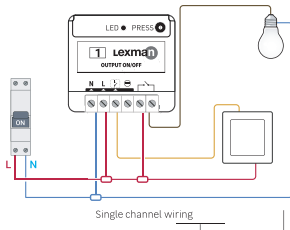

Figure 1
3. Wire the ON/OFF receiver according to the diagram (figure 1).